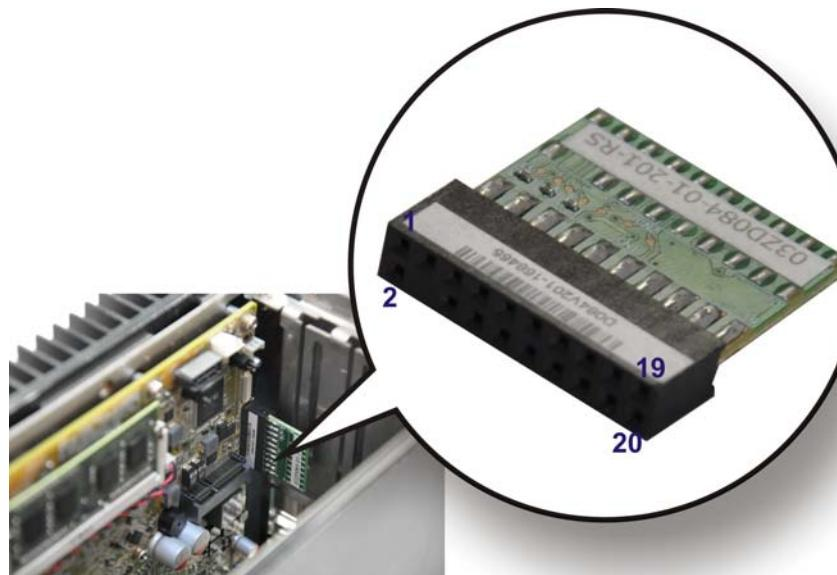

Figure 3-28: TPM Module Installation
Step 3: Insert the TPM module. Make sure that pin 1 on the TPM module corresponds to pin 1 on the TPM connector (**Figure 3-28**).